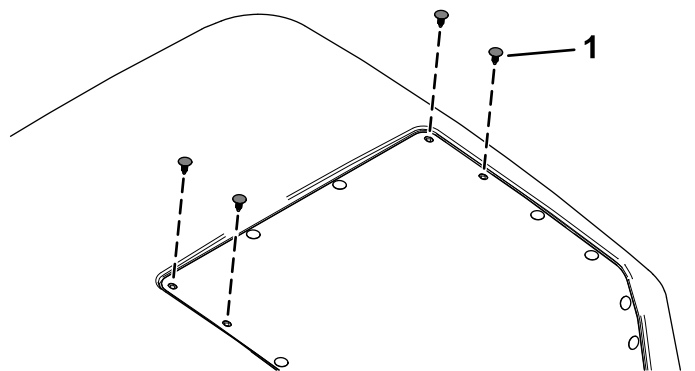

**Figure 22**
- Secure the slow-moving vehicle sign to the marker mount using 3 flange-head bolts (1/4 x 3/4 inch), 3 flat washers, and 3 locknuts (1/4 inch) as shown in Figure 22.